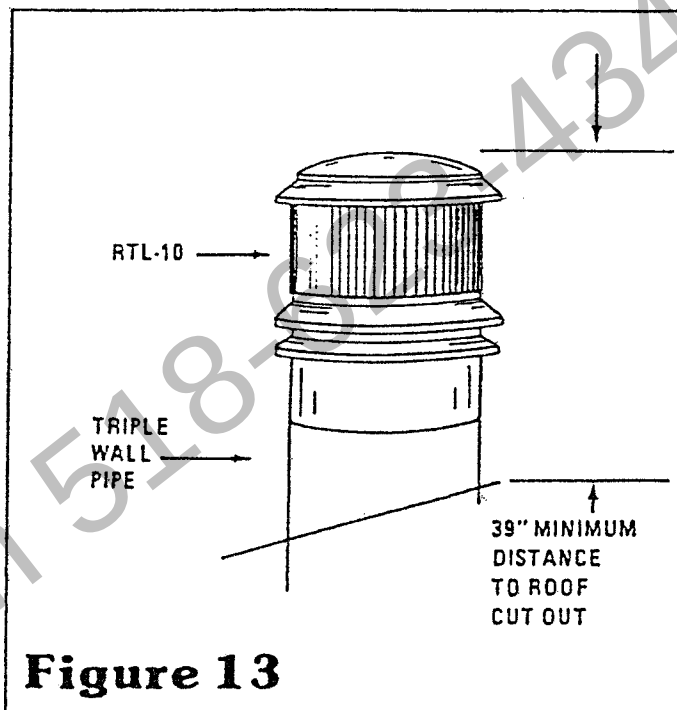
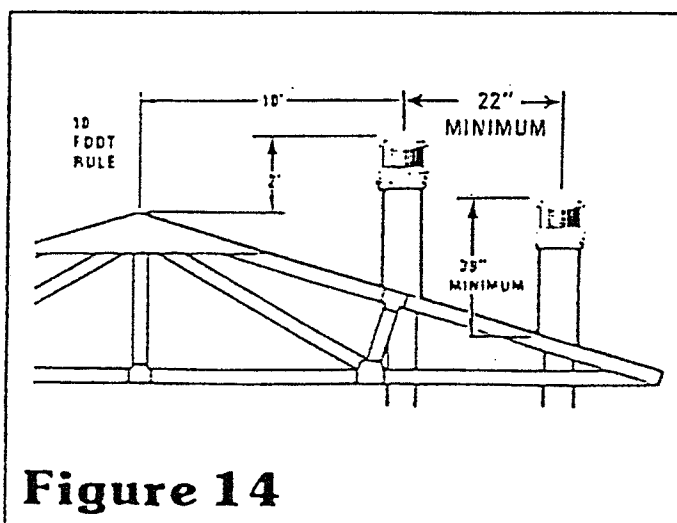

Figure 13
Figure 14
Step 10 Extend chimney by adding sections of triple-wall pipe, as in Step 3, until pipe is a minimum of 18" inches above highest point of roof cut-out (Figure 13). Rain cap and chimney must extend 39 inches above highest point where it passes through roof, and not less than 2 feet above highest point of roof within 10 feet horizontally (Figure 14).